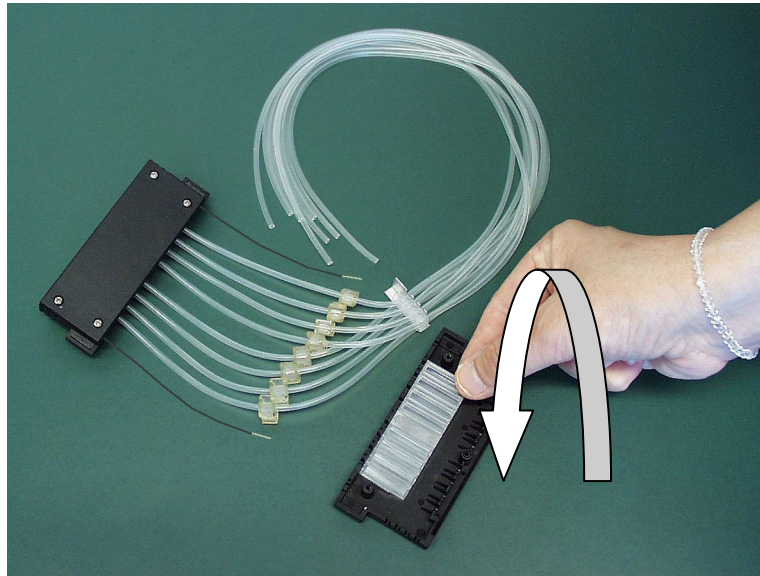

Fig. 7.22 Placing the sight window
7. First place the plastic sight window with the grooves pointing upwards onto the bottom cover of the upper part of the dispensing cassette, if it is not already there (*Fig. 7.22*).